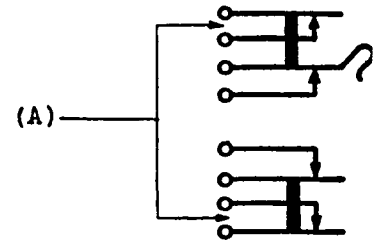

Fig. 8
- (d) **Fig. 8(A)**: For keys with an offset lever, the separation between contacts which are broken by a spring operated by plunger spring by means of a stud shall be — 0.010 inch (Readjust — 0.012 inch).